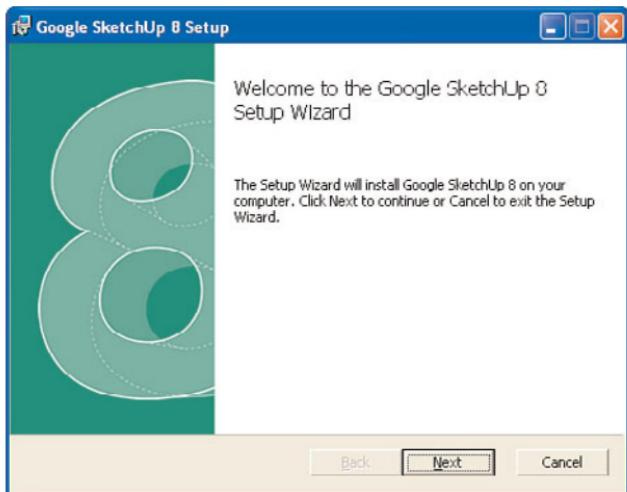

FIGURE 2.4 The SketchUp Setup Wizard.
7. Double-click the downloaded file. A dialog box may appear warning you of the risk of running downloaded files. If so, click the **Run** button in the dialog box. The SketchUp installer starts, as shown in Figure 2.4.